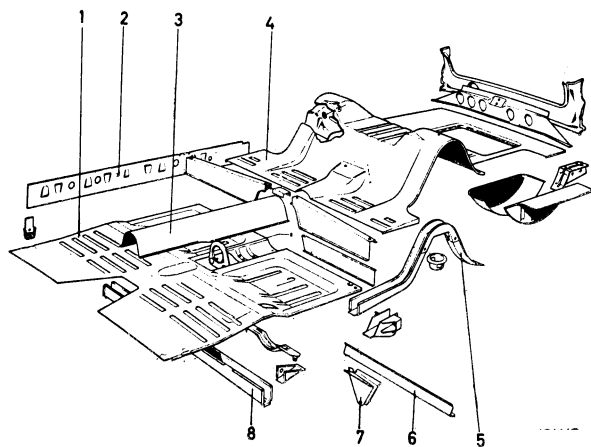
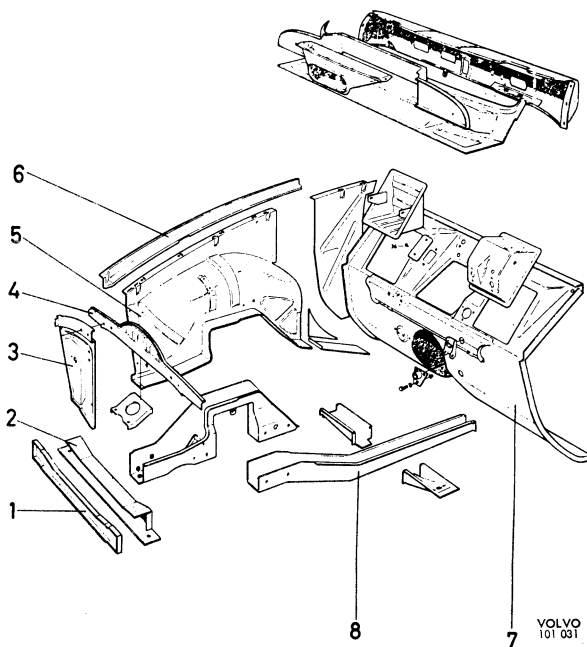

Fig. 1. Floor section (2- and 4-door)
Fig. 2. Scuttle section
The body can be suitably divided up into the floor, side sections, rear section, scuttle, roof, front mudguards, doors, luggage compartment and bonnet. The floor and frame sections (Fig. 1) consist of a front and rear floor plate (1 and 4) and an inner cantrail (2), front and rear cross-members (8 and 6), tunnel (3) and scuttle (Fig. 2). The floor plates are welded together with the rear seat support. The tunnel (3), which accommodates the propeller shaft is spot-welded to the floor plates. The rear floor plate has a longitudinal reinforcing member (5) on each side at the bottom and between these a number of cross-members. One of the cross-members (6) is provided with an attachment (7) for the rear axle tie rod. There is a flanged hole in the rear floor plate for mounting the fuel tank, the upper
part of which forms part of the floor in the luggage compartment. The scuttle section (Fig. 2) consists of the bulkhead (7), wheel arches (5), front upper cross-member (4) and side plates (3), as well as lower cross-members (1 and 2). The bulkhead forms the front transverse wall of the body and is shaped with welded end pieces. Two front side members (8) project from the front floor. At the front they are joined together by means of a cross-member (2) and at the rear they are connected to the front cross-member under the front seats. Upper side members (6) project from the upper corner between the bulkhead and front pillar. These are spot welded to the front pillar, the front side plate and wheel arch plates. The front axle member and bumper support bars are attached to the side members.